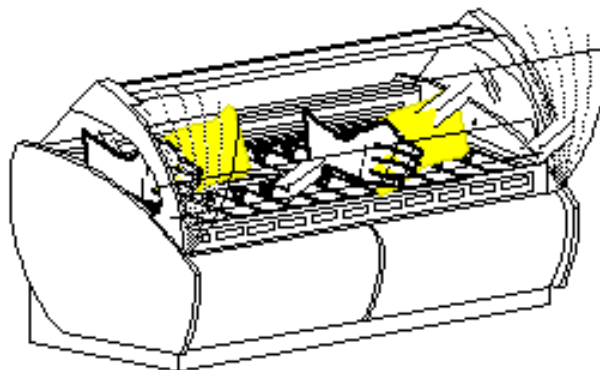

fig. 8
- Clean the interior of the cabinet with a sponge or cloth and warm water without detergents, as shown in fig. 8.